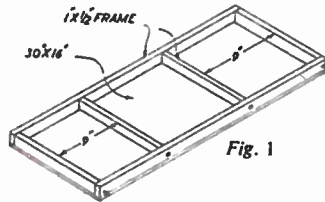
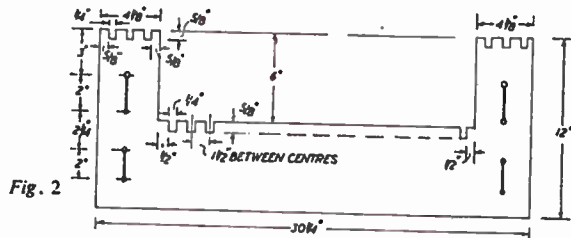
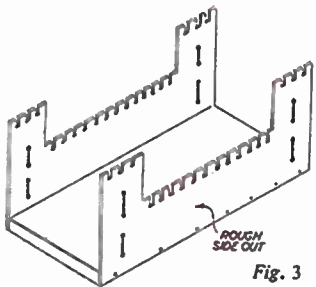

Fig. 1
Fig. 2
Fig. 3
The framework is made from $1\frac{1}{2}$ in. square material to the measurements shown in Fig. 1. Make allowance when marking up the rails, for the tenons as shown in Fig. 2. They are mortised into the upright pieces (A) and are mitred to fit. Measurements of the tenons are shown in detail and the section in Fig. 3 shows the tenons mitred at the centre.
The framework is made from $1\frac{1}{2}$ in. square material to the measurements shown in Fig. 1. Make allowance, when marking up the rails, for the tenons as shown in Fig. 2. They are mortised into the upright pieces (A) and are mitred to fit. Measurements of the tenons are shown in detail and the section in Fig. 3 shows the tenons mitred at the centre.
The first part to build is the base, which is a 30in. by 16in. panel of hardboard, braced with a 1in. by 3/4in. frame as shown in Fig. 1. Frame members are attached by gluing and pinning, a synthetic resin glue being recommended (e.g., Cusco One-Shot powder mixture). Assemble the base with the shiny side of the hardboard uppermost.
The two side pieces are then cut from hardboard sheet, as per the layout shown in Fig. 2. The notches are cut out by making vertical saw cuts, scoring along the bottom line and then breaking out the piece. If necessary, clean up with a file or glasspaper, although a slightly rough appearance is quite acceptable. The slits in the towers are formed by drilling at each end with a 1/4in. diameter drill, cutting the slot between them with a small saw and then opening up with a 3/8in. warding file. Alternatively, the notches along the tops of the walls and towers and the tower slits can be fretted out. To save time in marking out, one side can be finished completely and then used to mark out the other side.
When finished, the two sides are fastened to the base, as in Fig. 3. The rough surfaces of the hardboard should face outwards to simulate a stone surface. Secure with glue and panel pins spaced at about 3in. intervals.